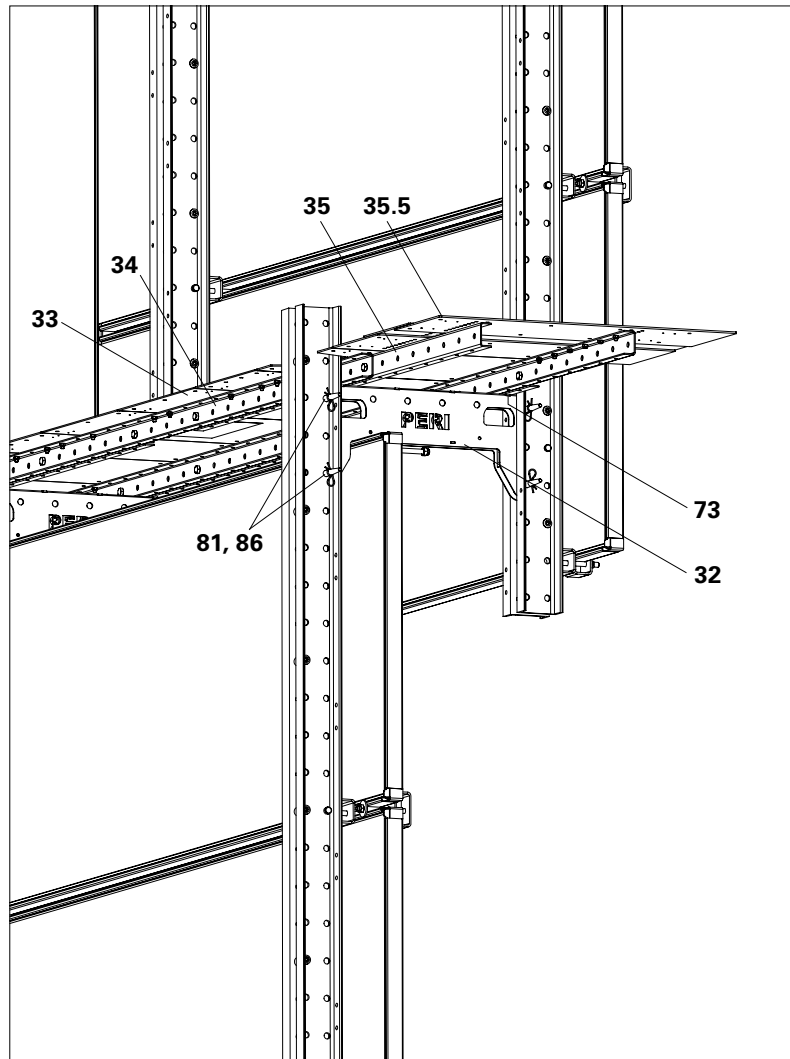

Fig. B2.05
Platform Cantilever Beam LPS (32) and mounted platform (33) are bolted to the Climbing Rail (2) and Enclosure Post (4) with Fitting Pins Ø 21x120 (81) and Cotter Pins 4/1 (86). (Fig. B2.05)